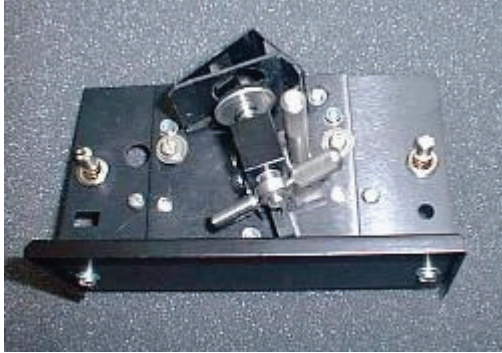

Figure 47 Front bolts
1. Remove the two screws that hold the fascia and front panel, as shown in Figure 47.
12. Remove the two screws from the front plate and refit the front plate with fascia, as shown in Figure 47.